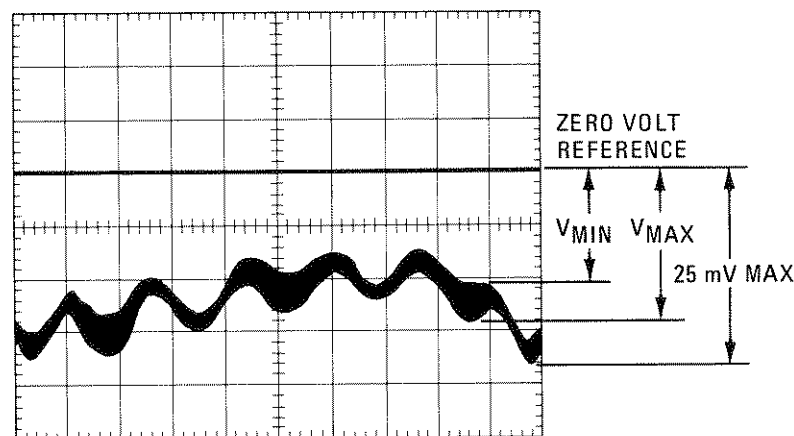

Figure 4-11. Typical Low Frequency Swept SWR Measurement
4. Select several points on the trace and calculate  $V_{MAX}/V_{MIN}$  (see Figure 4-11).